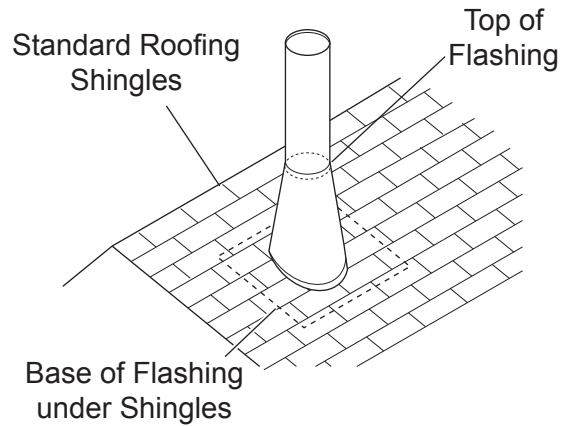

Figure 19 - Cutting Off Top of the Flashing
3. Set the flashing on the roof. Scribe a line around the flashing. Cut $\frac{1}{4}$ " below the scribed line. This should increase the diameter of the flashing outlet enough to allow the flashing to be placed over the chimney. *See Figure 19.*